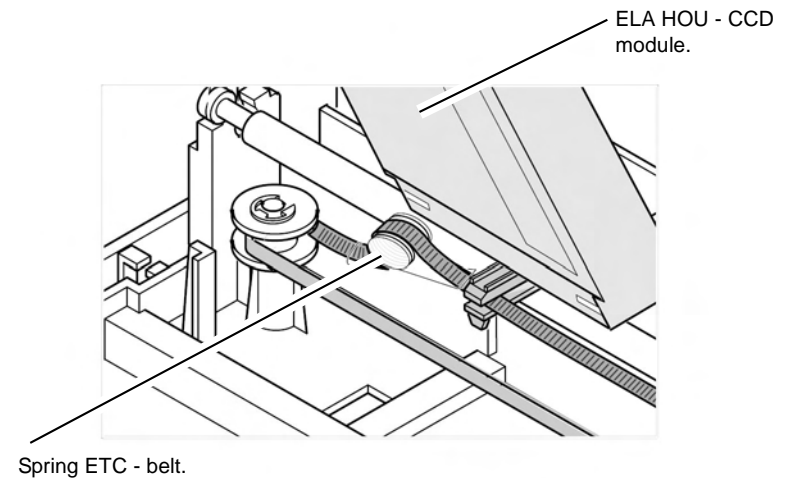

Figure 17 ELA HOU - CCD module replacement
2. Ensure that the ELA HOU - CCD module is installed correctly, Figure 17.